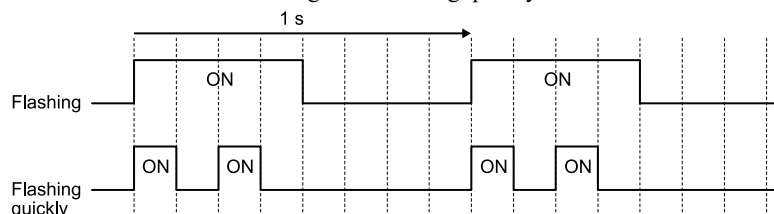

Figure 1.7 LED Flashing Statuses
*1 Refer to Figure 1.7 for the difference between “flashing” and “flashing quickly”.